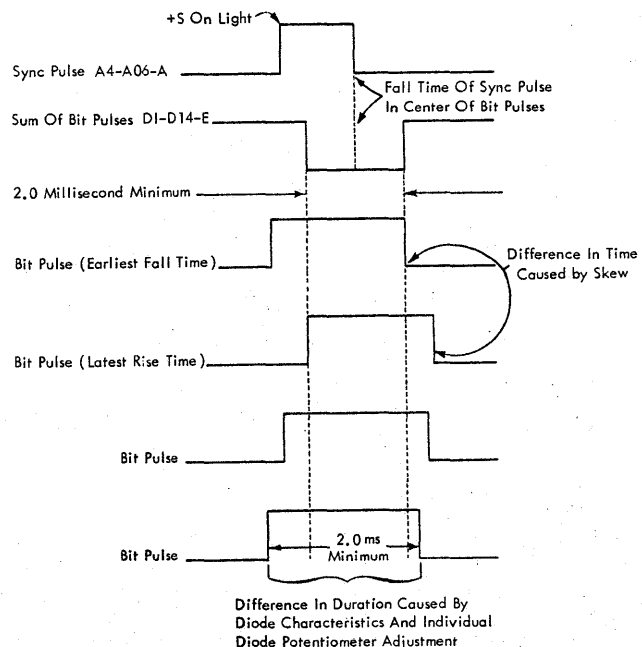

Figure 4-9. Sync Pulse Timing
9. Scope the tape sync output pulse at A4A06A and adjust the lamp assembly so that the fall of the sync pulse (+S to -S) occurs in the center of the "anded" output waveform within 0.5 milliseconds (Center of scope face due to Step 6). Scope A4A064 and A4A06C alternately to maintain the negative peak of the diode at -12v while positioning the sync. The negative peak may be readjusted to -12v with the timing diode potentiometer to facilitate this adjustment. See Figure 4-9.